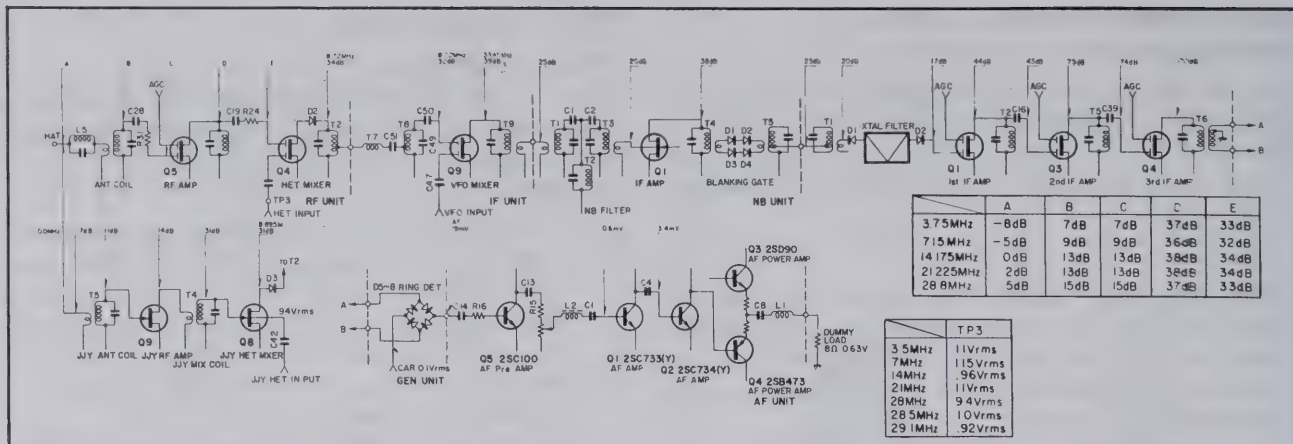

Figure 13. Receiver Section Level Diagram
Refer to Figure 13 for a level diagram of the receiver section to aid in service work. The following notes apply to that diagram.
1. Figure 13 shows a curve formed by plotting the signal generator output required for a constant audio output with a constant AF gain control setting. Set the AF gain control for a .63v/8 ohm audio output for a 0 db signal generator input at 14.175 MHz.